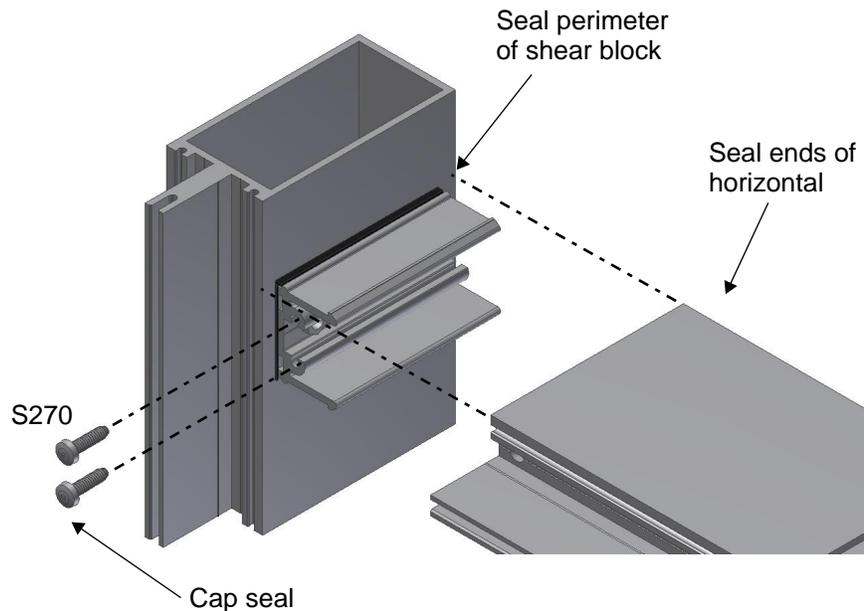

Figure 10: Slide the end of the horizontal onto the shear block and fasten using two S270 fasteners.
- Slide the end of the horizontal onto the frame clip, and fasten the horizontal to the frame clip using two S270 fasteners, as shown in Figure 10.